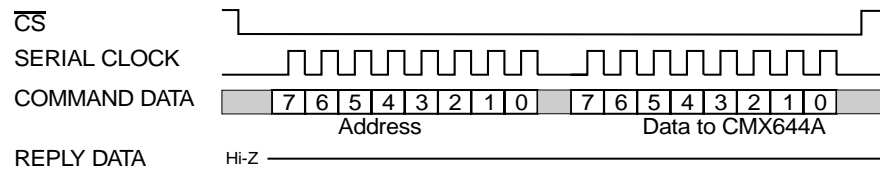

Figure 4: C-BUS Transactions (One Address and one Data byte from μ C)
1. A single data byte sent from the μ C to be written into one of the CMX644A's Write Only Registers, as illustrated in Figure 4.